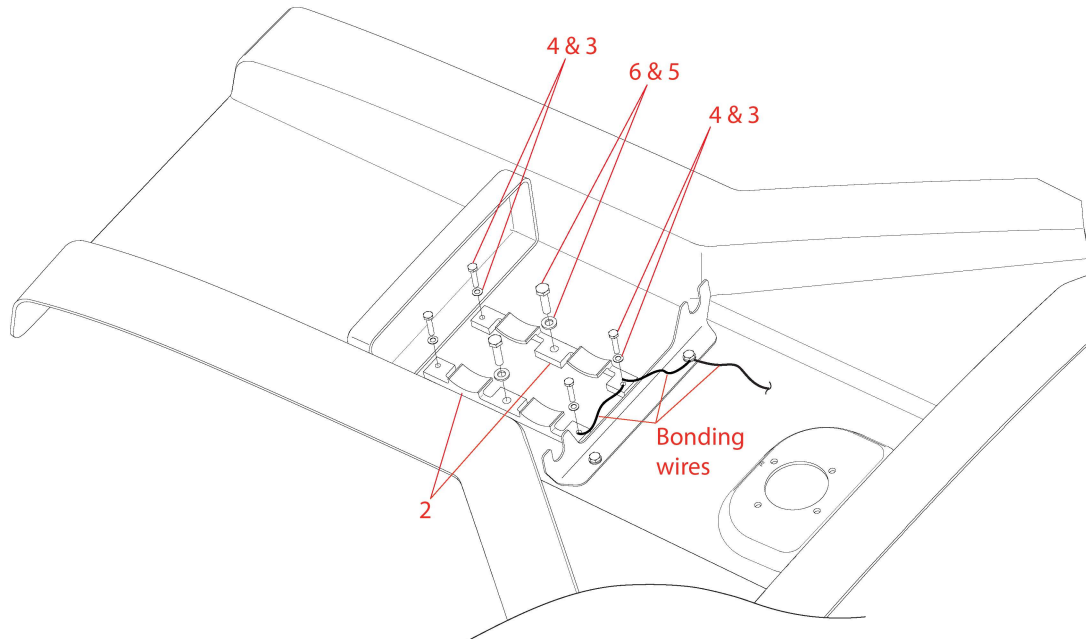

Figure 2. Mounting bracket installation. (shown inverted for clarity)
5. Install the new mounting brackets (item 2) using screws (items 4 and 6) and washers (items 3 and 5). Refer to Figure 2 for installation and orientation of the brackets (item 2).